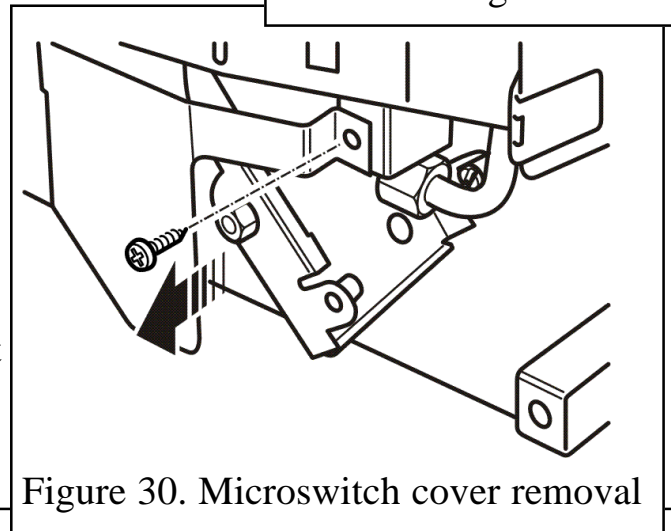

Figure 30. Microswitch cover removal
(See figures 30 & 31).
2. Detach the microswitch cover by removing one screw and pulling clear of the location lug (See figure 30).
(See figures 30, 31 & 32).